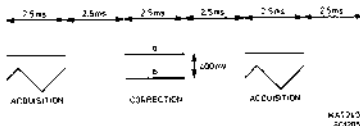

Figure 9.1 Voltage-waveform present at X3382 and X3384.
- Adjust R7939 (Ch. A) and R8139 (Ch. B) on unit A33 so that the lower side of the signal jumps just upwards and that the triangular input signal is visible (see figure 9.1 for this).
- Adjust R7939 (Ch. A) and R8139 (Ch. B) so that the distance between level a and b during the correction stroke in figure 9.1 is 400 mV (+ or - 20 mV).
- Adjust the voltage level during the correction stroke (see Figure 9.1) to 0 V with R8319 and R8339 on unit A33 for Ch. A and R8359 and R8379 on unit A33 for Ch. B.
- Adjust the voltage level during the correction stroke (see figure 9.1) to 0 Volt with R8319 and R8339 on unit A33 for Ch. A and R8359 and R8379 on unit A33 for Ch. B.